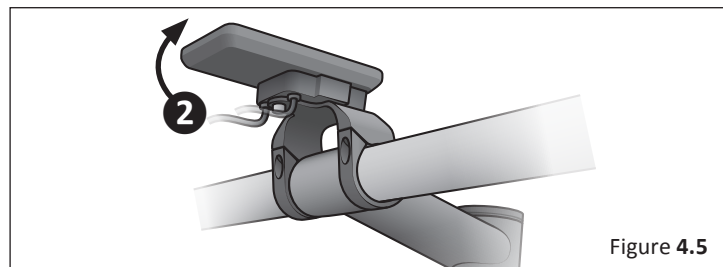

Figure 4.5
- 2 Adjust the angle of the display so it can be easily viewed while riding. **Figure 4.5**